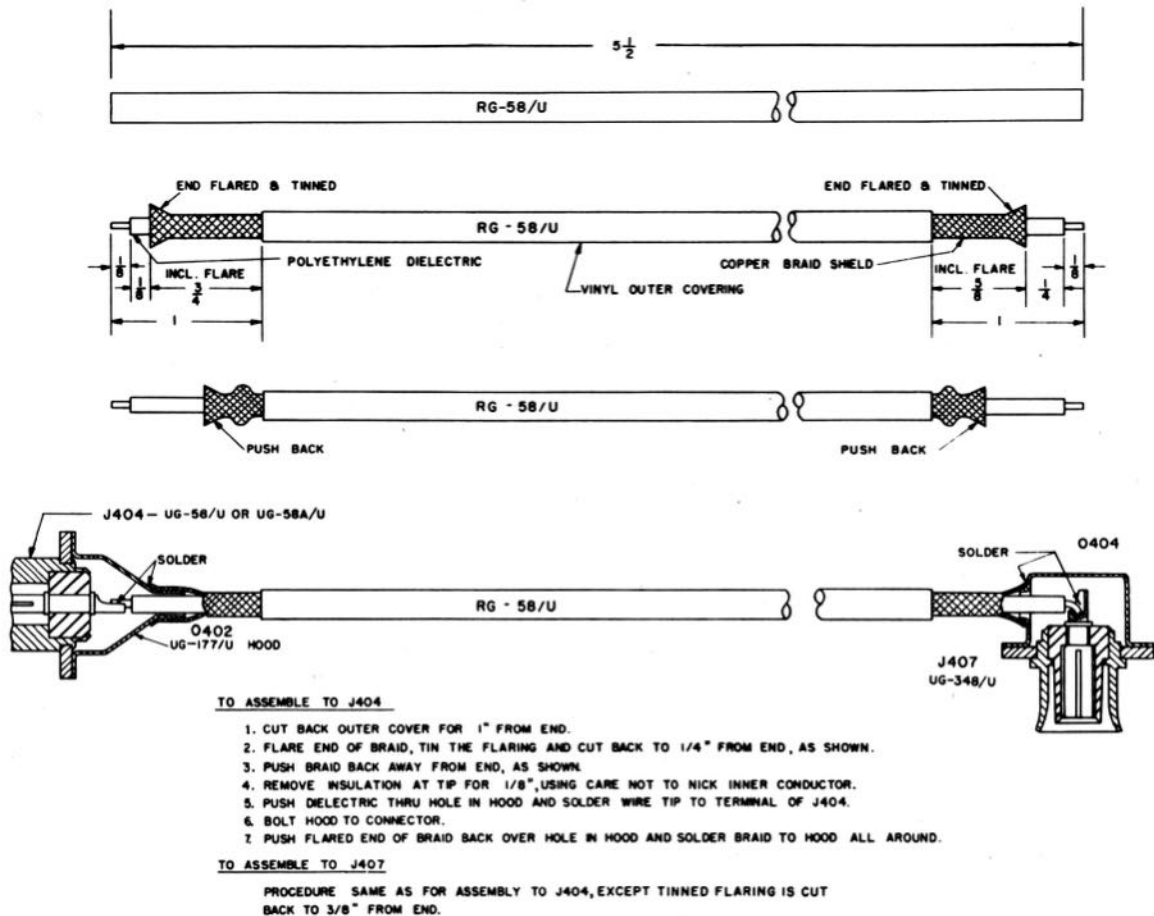

Figure 7-21. Assembling R-F Cable to Connectors J404 and J407
b. **R-F CABLE ASSEMBLIES.**—Several r-f cable assemblies are used in Radio Receiver R-482C/URR-35 and in Low-Pass Filter F-304/URR-35C. Unless subjected to physical abuse or abnormal conditions of operation, these cables should not require repair or replacement. However, in the event that replacement is found necessary, detailed instructions for fabrication of the cable assemblies are included in figures 7-21, 7-22, and 7-23. Fabrication instructions for the external r-f cable used with the receiver appear in figure 3-6.